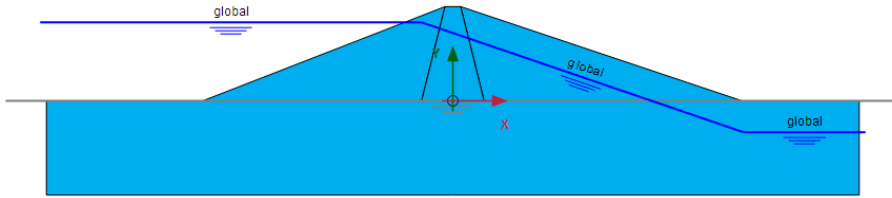

Figure 8.4 High water level in the reservoir
**Hint:** Note that by default *Undrained behaviour (A)* and *(B)* are ignored for a *Gravity loading* calculation type. The corresponding option is available in the *Deformation control parameters* subtree in the *Phases* window.
- Define the water level corresponding to the level of water in the reservoir prior to the drawdown. The water level consists of four points; starting at the very left side at a level of 25 m above the ground surface (-132.0 25.0); the second point is just inside the dam at a level of 25 m (-10.0 25.0); the third point is near the dam toe (93.0 -10.0) and the fourth point just outside the right boundary at a level of 10 m below the ground surface (132.0 -10.0). The defined water level is shown in Figure 8.4.